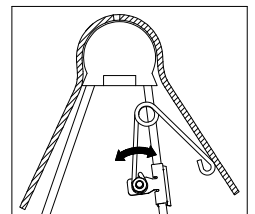

Figure G2: Cutaway view of
2. **Set coupler angle.** Adjust the resting angle of your coupler plate by rotating the spring on the driver side pivot arm. Pulling the top of the spring away from the cab will increase the angle of the coupler plate. Set the angle of the coupler so that it will tilt away from the cab when coupling, see Figure G2. Tighten the 1/4" nut once the spring's orientation is set.